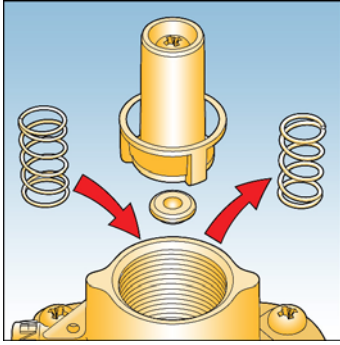

Fig. 13
6. Remove UPSS spring and replace with new one. See Fig. 13.